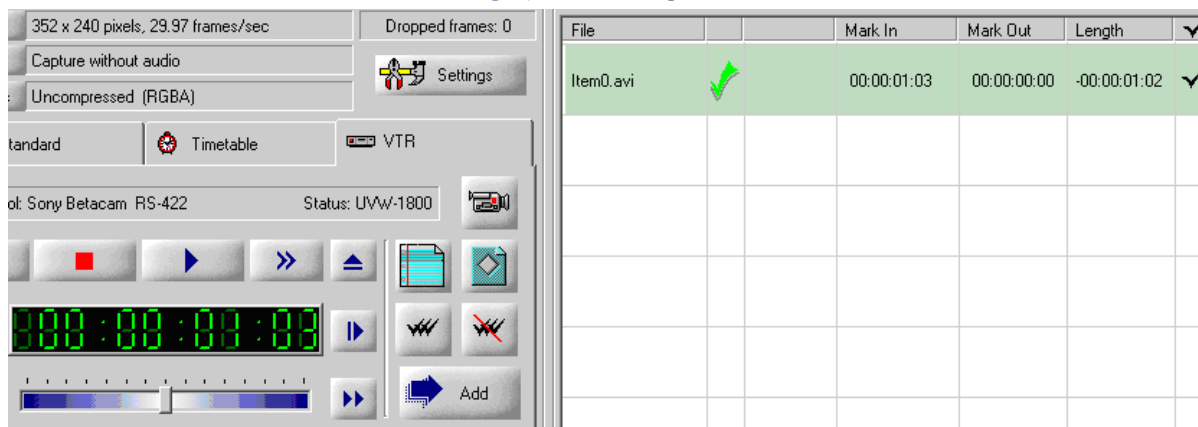

Figure 32. Setting the beginning of data input in the VTR mode
1. Find a new record beginning mark (Mark In) with the help of the VTR control buttons. Pressing the Add button adds the mark to the timetable list (to the Mark In column). In the Mark Out column (the end), the mark value at the moment is 00:00:00:00 (Figure 32).